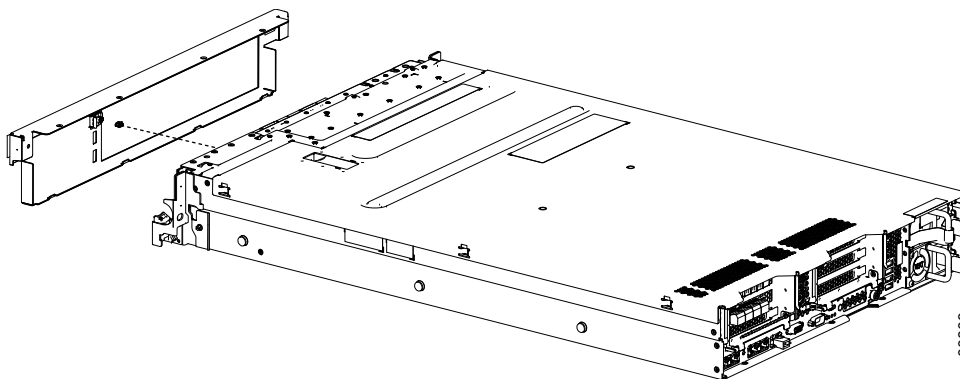

Figure 67. Connecting the LED cable to the back of the bezel assembly
1. Connect the LED cable to the LED PCB on the back of the bezel assembly as shown in Figure 67.